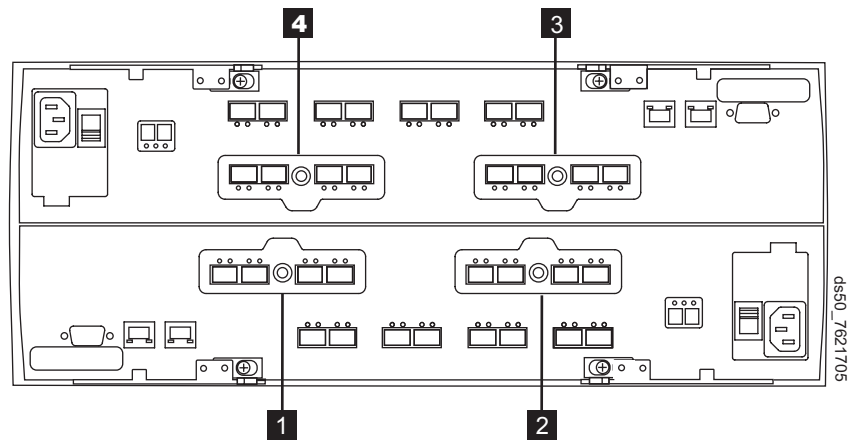

Figure 113. Host interface card slots on controllers A and B
15. Locate the host interface card that you want to replace. See Figure 113 on page 181.
Table 54. Description of Figure 113